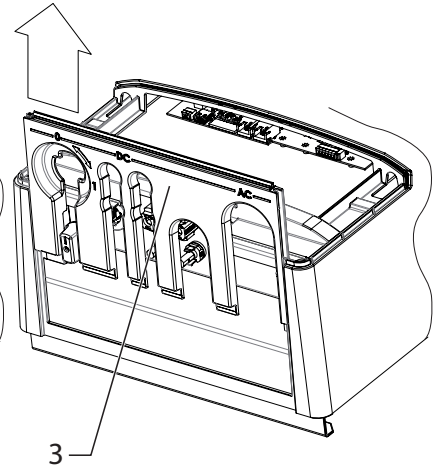

Figure 13: Remove the slider
10. Variant 2: Remove the slider. (See Figure 13 on page 18)